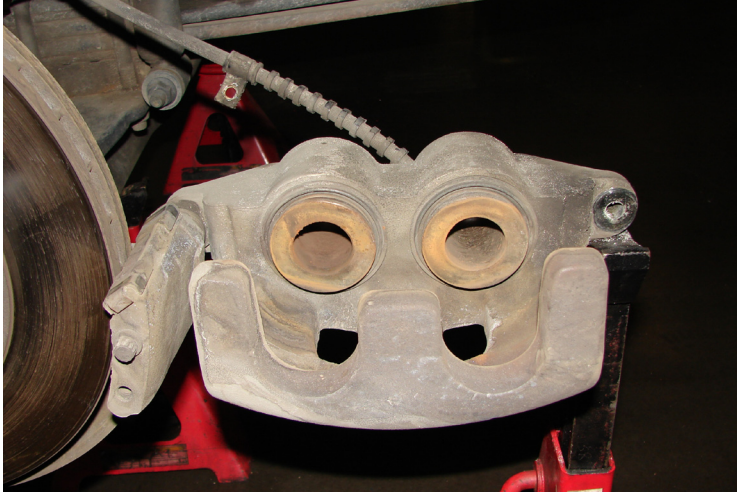

Figure 16. Support Caliper Assembly with Stand
4. Rotate the caliper down and support it with a suitable stand, as shown in *Figure 16*. Do not allow the caliper to be supported by the brake line.